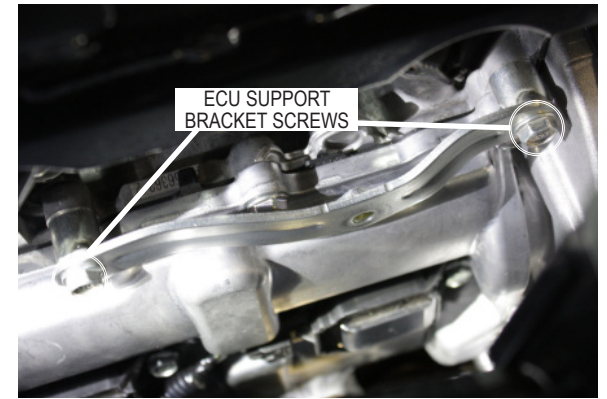

Fig. 11D
- D. Remove lower ECU support bracket using a 10mm socket and wrench. See Fig. 11D